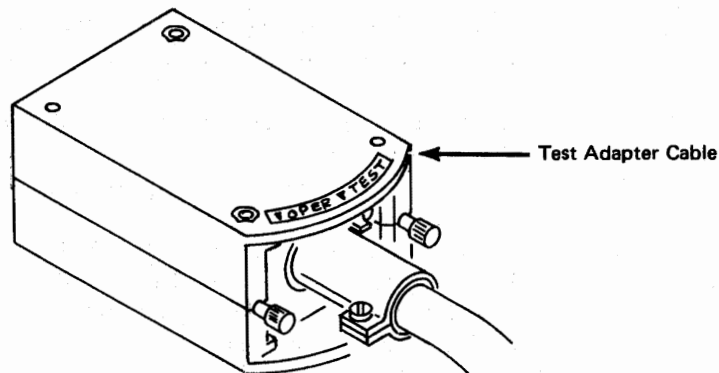

Figure B-1. Test Adapter Cable
If your terminal has an attached modem with the test adapter cable shown in Figure B-1, use this procedure to check the terminal's communication driver, and check the cable to the terminal's modem.
- 7 Place the test adapter cable's switch (shown in Figure B-1) to the TEST position.